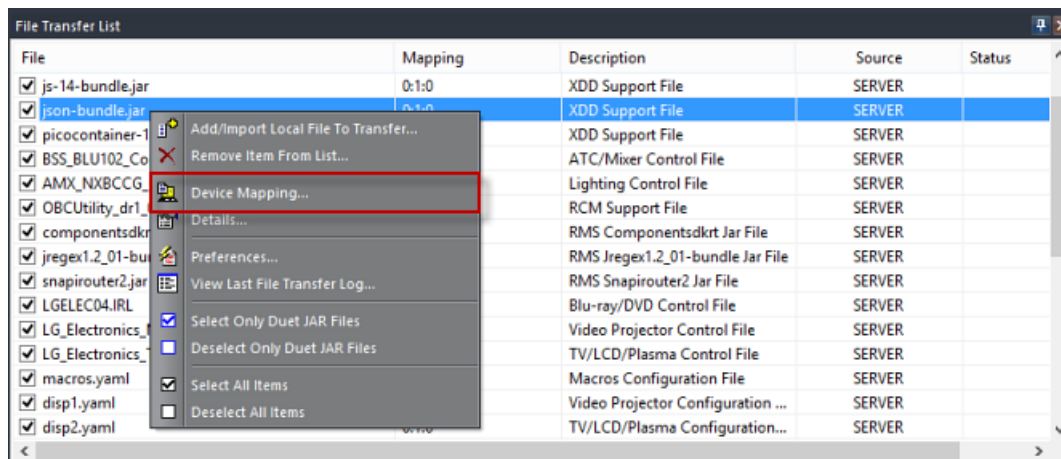

FIG. 35 File Transfer List Bar
1. Right-click on a file in the File Transfer List Bar (FIG. 35):